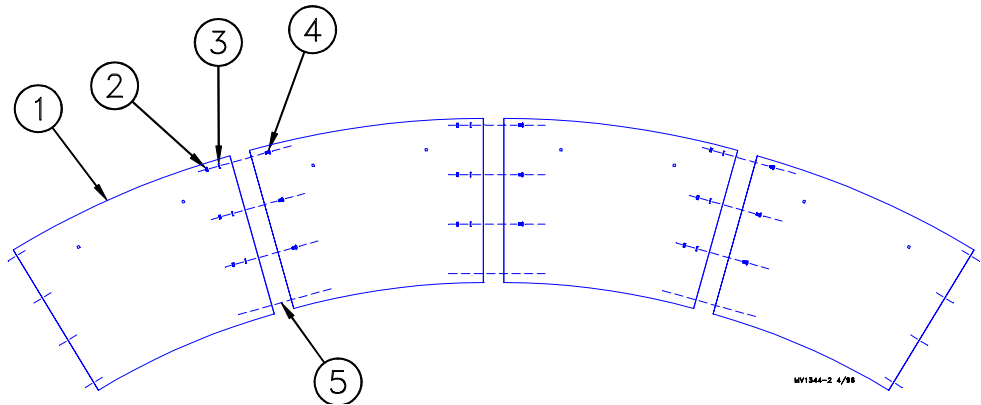

Figure 11. Cone Assembly (top view).
Lay the Cone Panels, with the flanges up, on a flat surface, as shown in **Figure 11**.
Loosely, fasten the Side Panels together with (3) 5/16-18 x 5/8" carriage bolts, (3) 3/8" lock washers, and (3) 5/16-18 hex nuts per joint. Only install hardware at the locations shown in **Figure 11**.